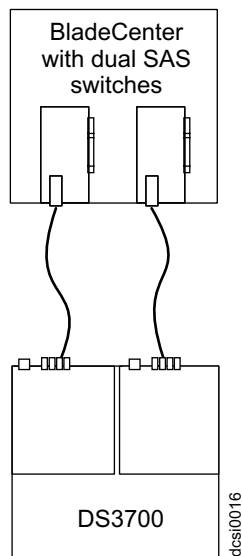

Figure 44. Example of DCS3700 connected to a single BladeCenter unit
2. To create a redundant host connection, connect a SAS cable from a second SAS connectivity module to a host connector on the other controller in the DCS3700. You can only create up to two redundant host connections in a dual-controller DCS3700, one connection each from the blade center to the DCS3700 controller host port as shown in Figure 44.